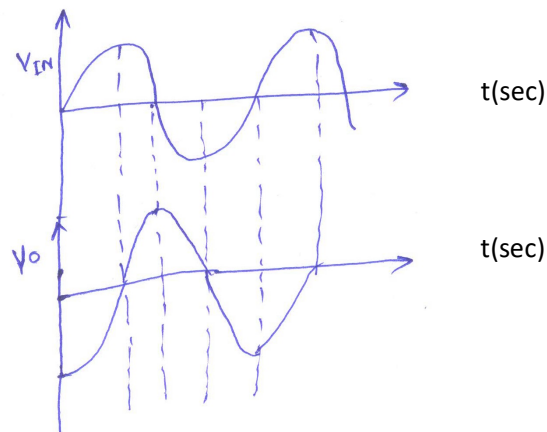

Fig. 5.21
- If sine wave is applied at the input of differentiator output becomes cosine wave (Fig. 5.21)